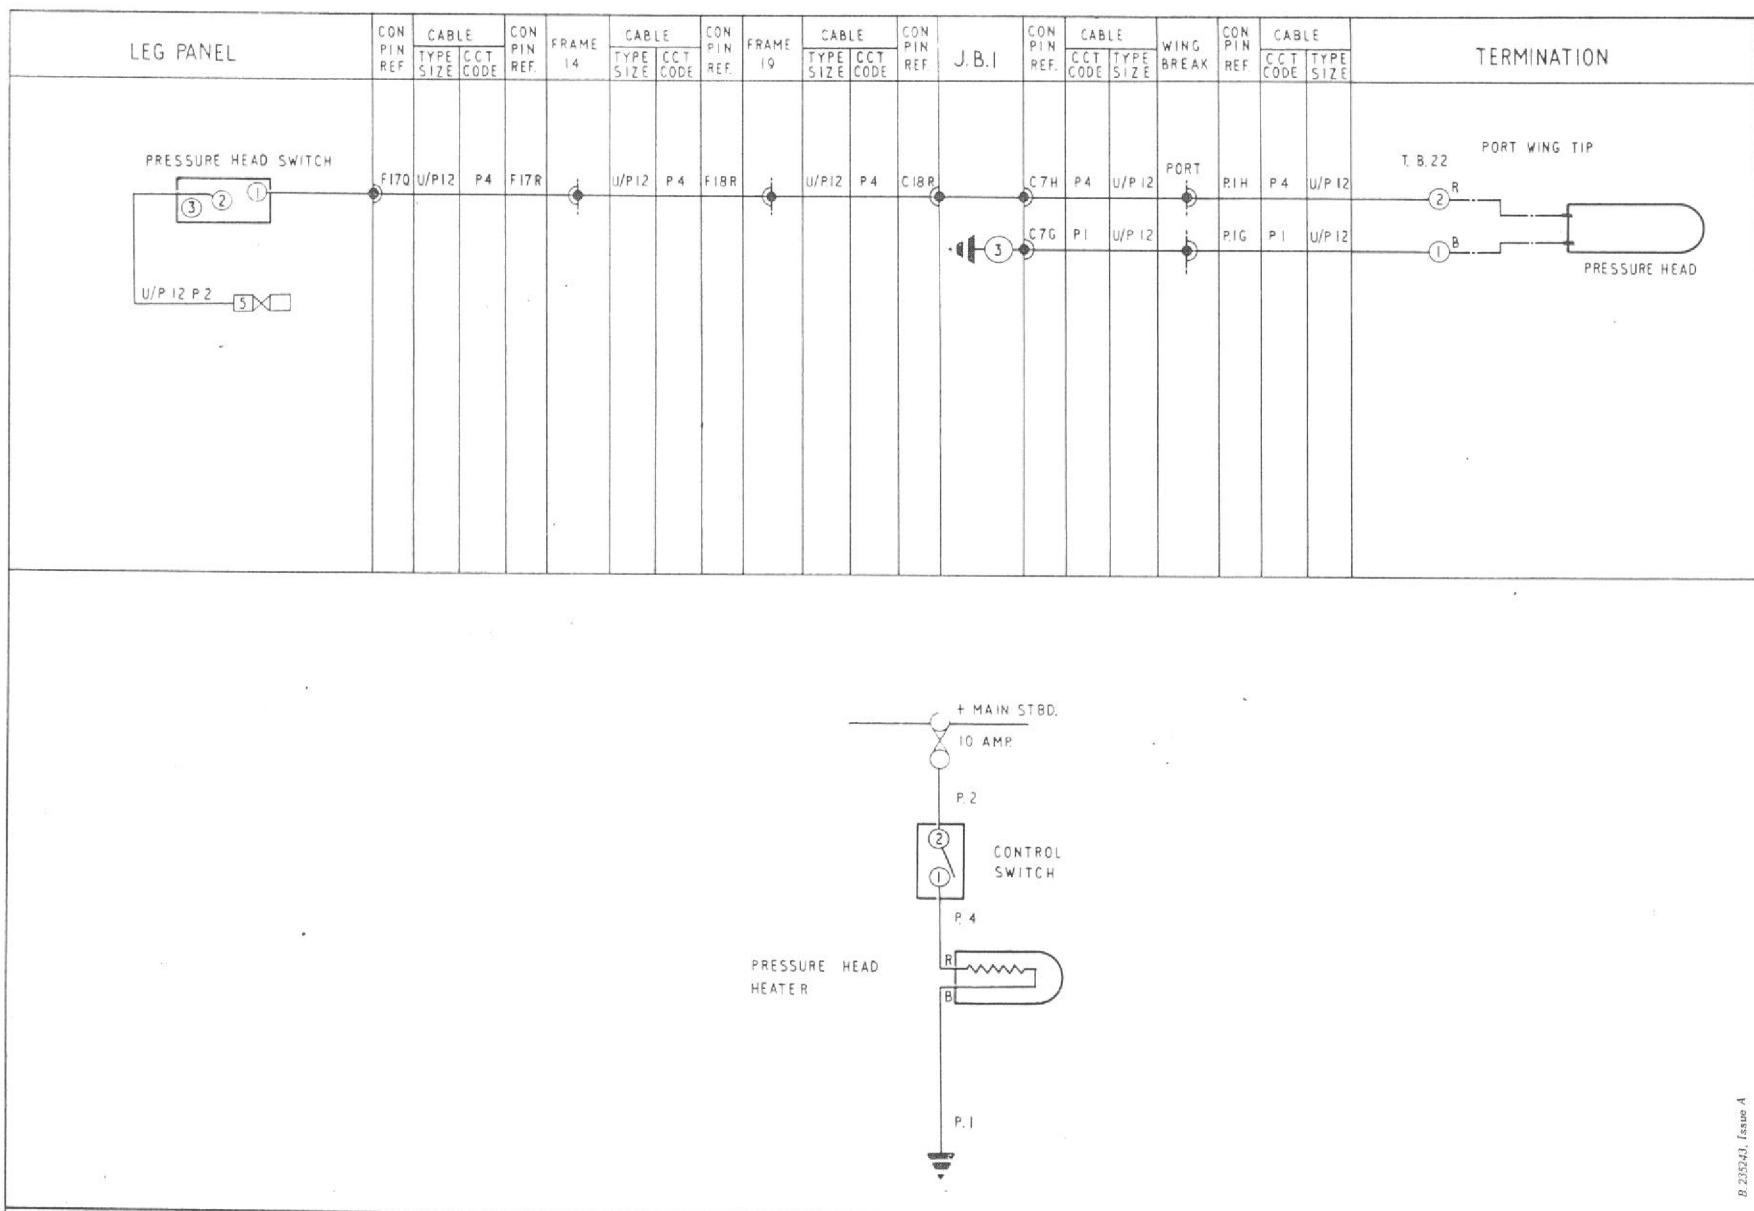

Fig.2. Typical routeing and theoretical diagram
8. Reading theoretical diagrams is a straightforward matter if a start is made at the fuse or circuit breaker, given at the top of each circuit, and the diagram followed through to the earth point at the bottom. As an example, consider the pressure head heater circuit given in fig 2. From the 10-amp. fuse, the positive supply, referenced P.2, is taken to the control switch, which is a single-pole switch marked OFF and ON. From the switch, the positive supply cable, referenced P.4, passes to the heater element in the pressure head. The negative return from the heater, which is referenced P.1 is connected to earth.
10. Routeing charts are divided into a number of columns, and all circuits commence from the fuse or circuit breaker shown in one of the shelf, panel, or termination columns. As an example of how to read a routeing chart, consider the pressure head heater circuit given in fig.2.